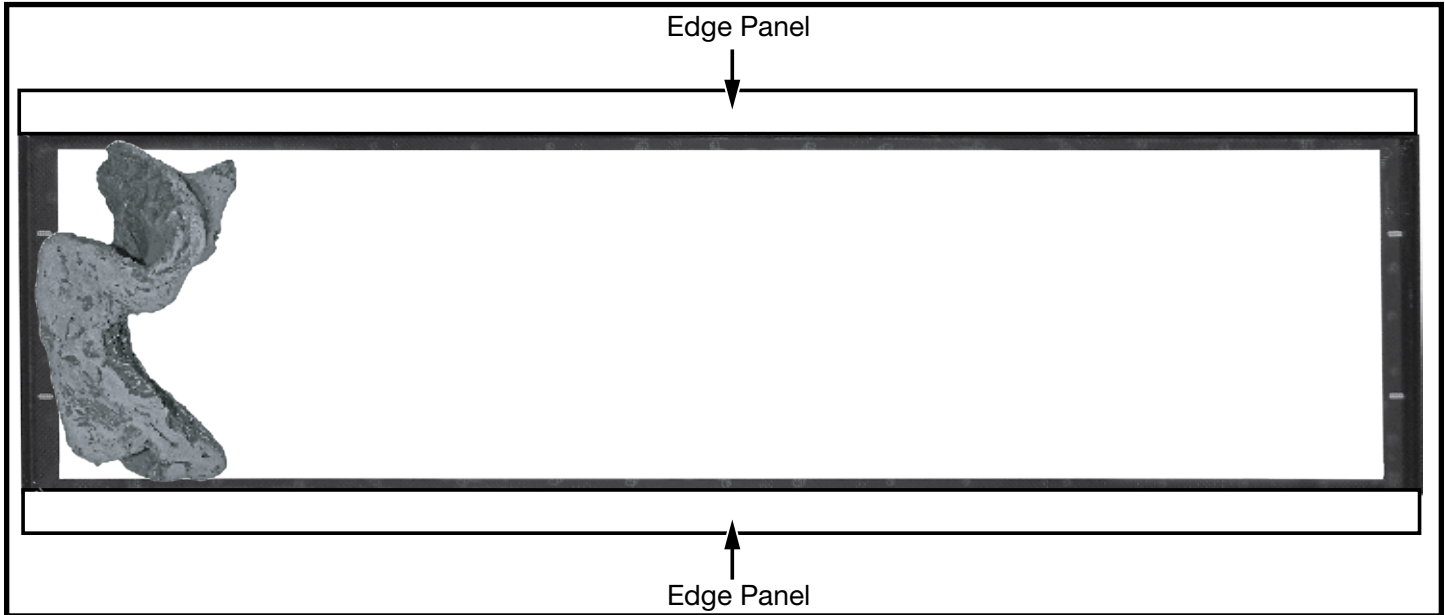

Figure 21: Log 1 Placement.
16. Secure the mesh to the burners with screws provided by screwing through the mesh to each small flange on the burners. There are 10 securing points for each burner (Figure 21).
1. Place log 1 so that its' outer edge is almost at the furthest edge of the tray (Figure 21).